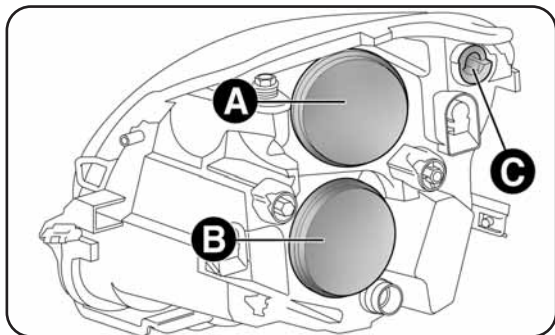

fig. 22
### FRONT LIGHT CLUSTERS fig. 22
- remove cover A-fig. 22;
- refit cover A-fig. 22;
- refit cover A-fig. 22.
- remove cover B-fig. 22;
- refit cover B-fig. 22.